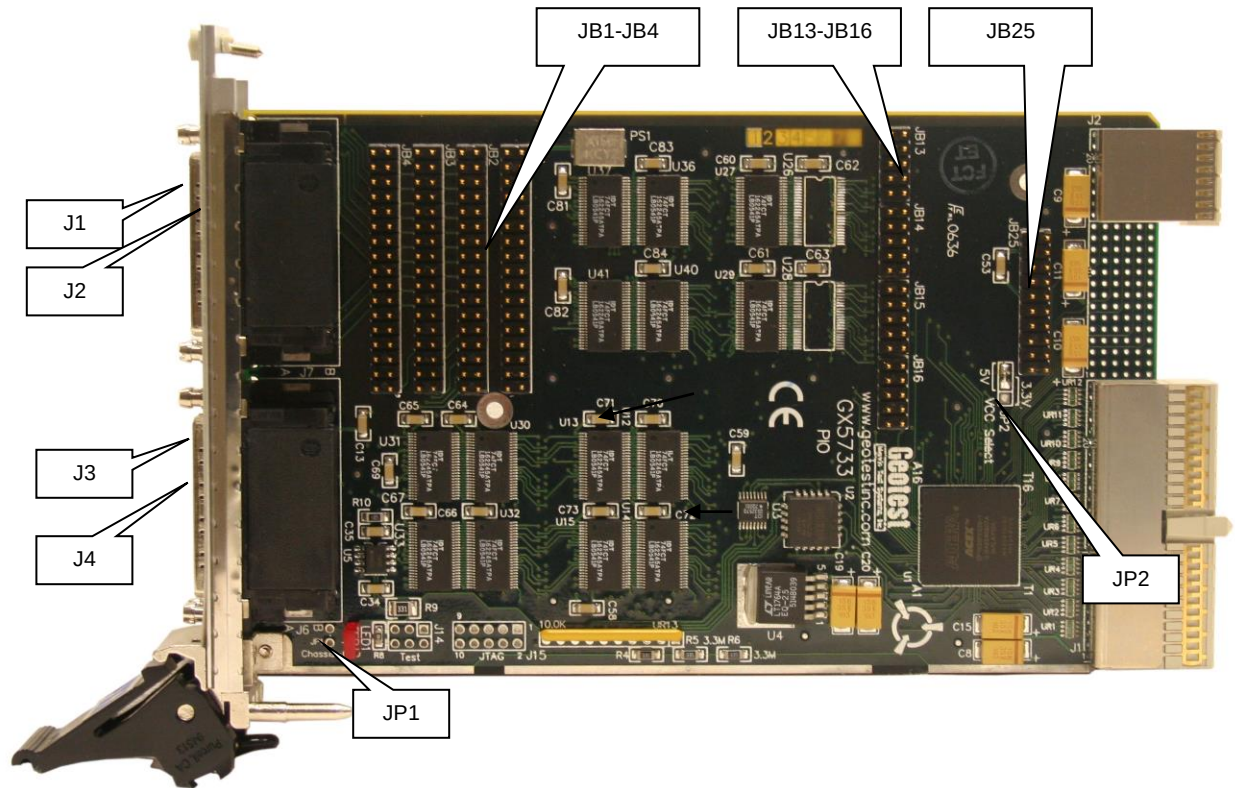

Figure 3-3: GX5733 Connectors and Jumpers
6. After you feel resistance, push in the ejector handles as shown in Figure 3-3 to secure the module into the frame.
Figure 3-3 shows the available GX5733 board connectors and jumpers followed by their description: